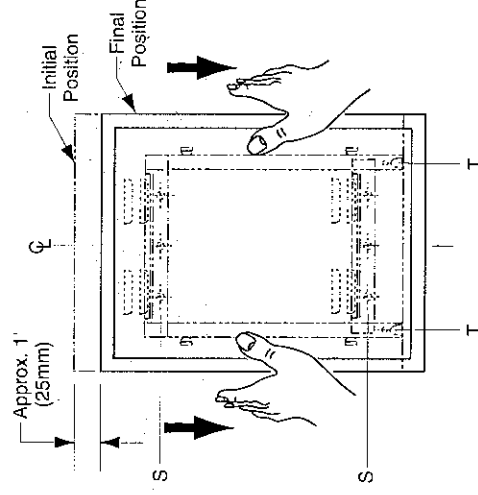

Figure 4
**Screw locking Design** — Lock mirror to wall hanger by tightening Phillips-head locking screws that are concealed in the bottom of frame at points indicated by a T. Mirror may be unlocked from wall hanger by loosening locking screws and lifting mirror off of concealed wall hanger (see figure 4)